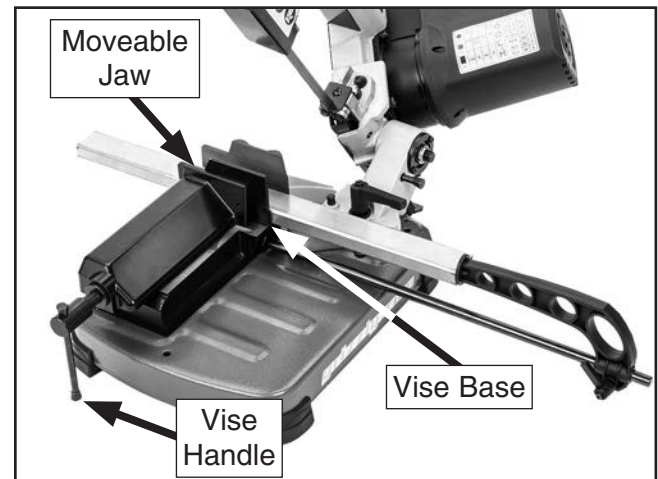

Figure 23. Location of vise components.
1. Turn vise handle (see **Figure 23**) counter-clockwise to relieve any pressure on vise jaws.